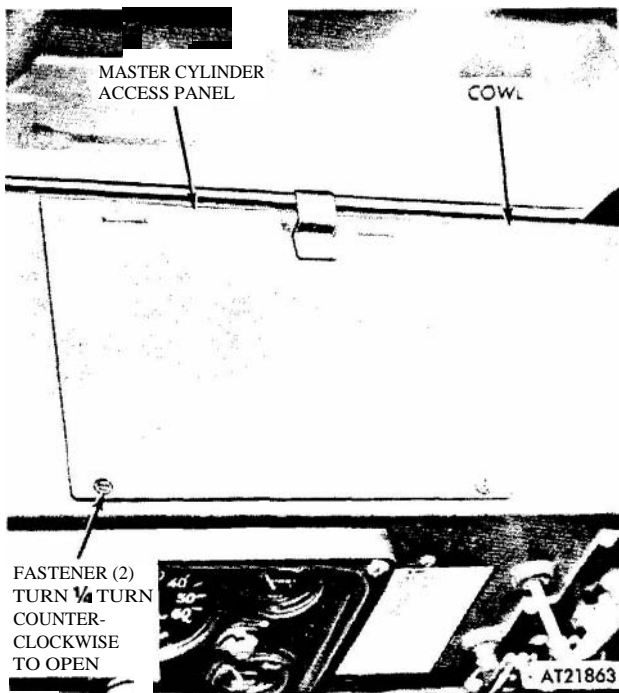

Figure 2-210. Master cylinder access panel, removal and installation.
(1) Remove master cylinder access panel (fig 2-210).